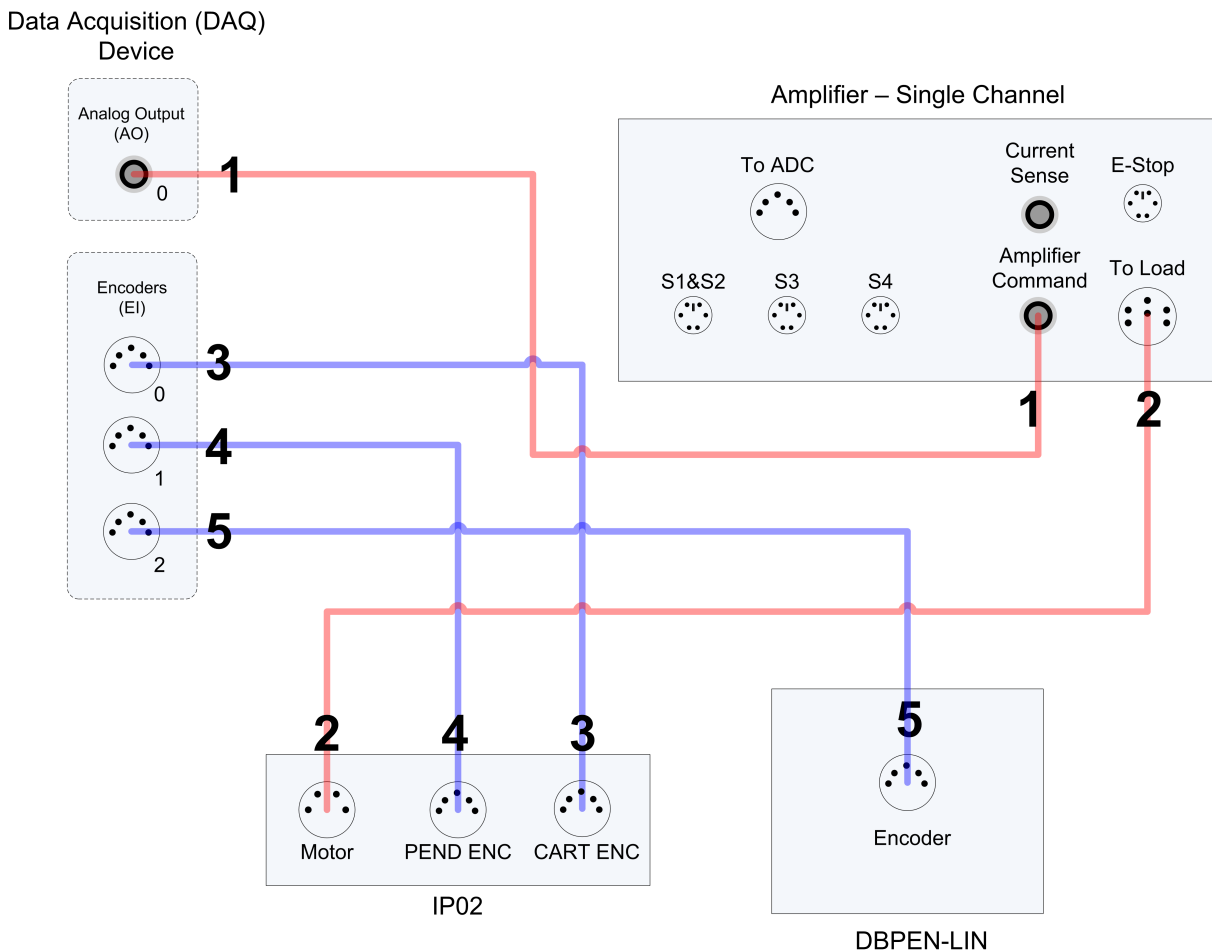

Figure 5.1: IP02 and DBPEN-LIN Module Wiring Diagram
The connections are given in Table 5.2 and illustrated in Figure 5.1. The detailed wiring procedure is given below.
3. Connect one of the 2x RCA to 2x RCA cable from the *Analog Output Channel #0* on the Data Acquisition Device to the *Amplifier Command* Connector on the Quanser amplifier. See cable #1 shown in Figure 5.1. This carries the attenuated motor voltage control signal,  $V_m/K_a$ , where  $K_a$  is the amplifier gain.
4. Connect the 4-pin-stereo-DIN to 6-pin-stereo-DIN from *To Load* on the amplifier to the *Motor* connector on the IP02. See connection #2 shown in Figure 5.1. The cable transmits the amplified voltage that is applied to the IP02 motor and is denoted  $V_m$ .
5. Connect the 5-pin-stereo-DIN to 5-pin-stereo-DIN encoder cable from the *Cart Encoder* connector on the IP02 to *Encoder Input #0* on the Data Acquisition Device, as depicted by connection #3 in Figure 5.1. This carries the cart position measurement and is denoted by the variable  $X_c$ .
6. Connect the 5-pin-stereo-DIN to 5-pin-stereo-DIN encoder cable from the *Pendulum Encoder* connector on the IP02 to *Encoder Input #1* on the Data Acquisition Device, as depicted by connection #4 in Figure 5.1. This carries the short link pendulum angle and is denoted by the variable  $\alpha$ .
7. Connect the 5-pin-stereo-DIN to 5-pin-stereo-DIN encoder cable from the Double Pendulum encoder connector directly to *Encoder Input Channel #2* on the Data Acquisition Device, as depicted by connection #5 in Figure 5.1. It carries the measured long link pendulum angle and is denoted by variable  $\theta$ .